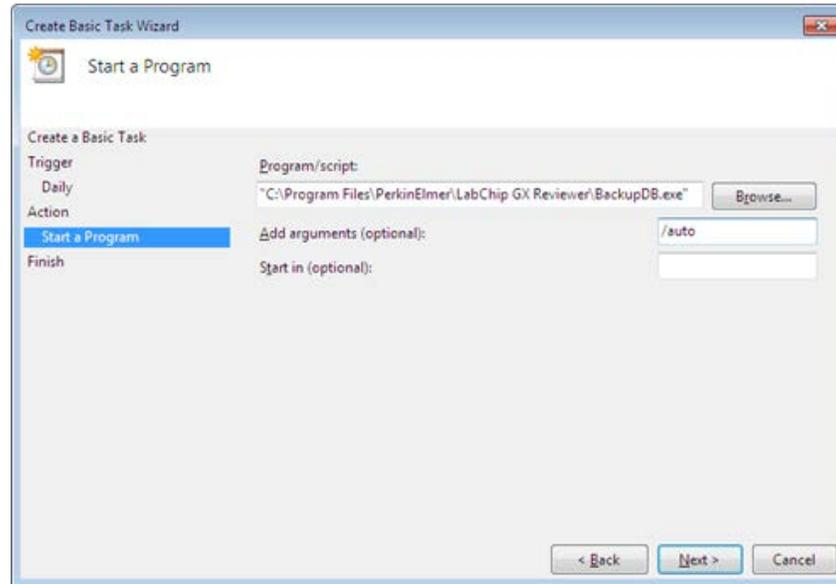

Figure 70. Add Arguments
- 9 Type **/auto** into the **Add arguments** text box and click the **Next** button. See Figure 70.